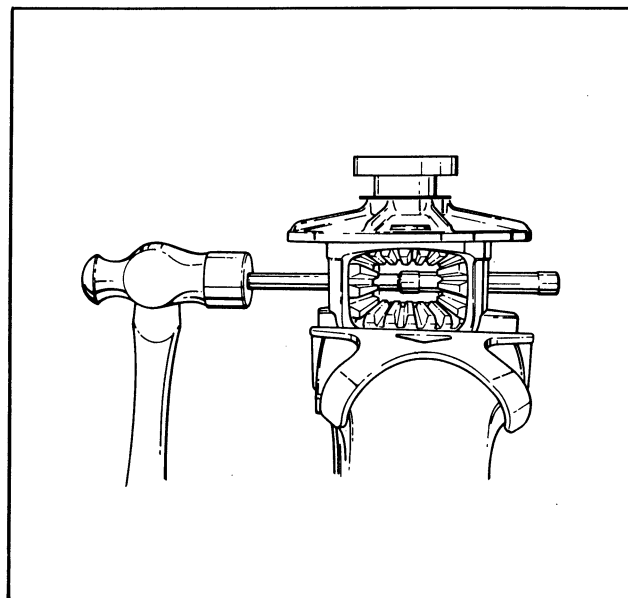

Figure 27 – Remove Pinion Mate Shaft
- n. Drive idler gear pinion mate shaft (14) from case with long brass drift. See Figure 27.
- o. Remove pinion mate gears (15) and thrust washers (16) (one on back of each gear) by rotating both gears 90° to opening in differential case.
- p. Remove differential side gears (17) and thrust washers (18) (one on back of each gear) through opening in differential case.